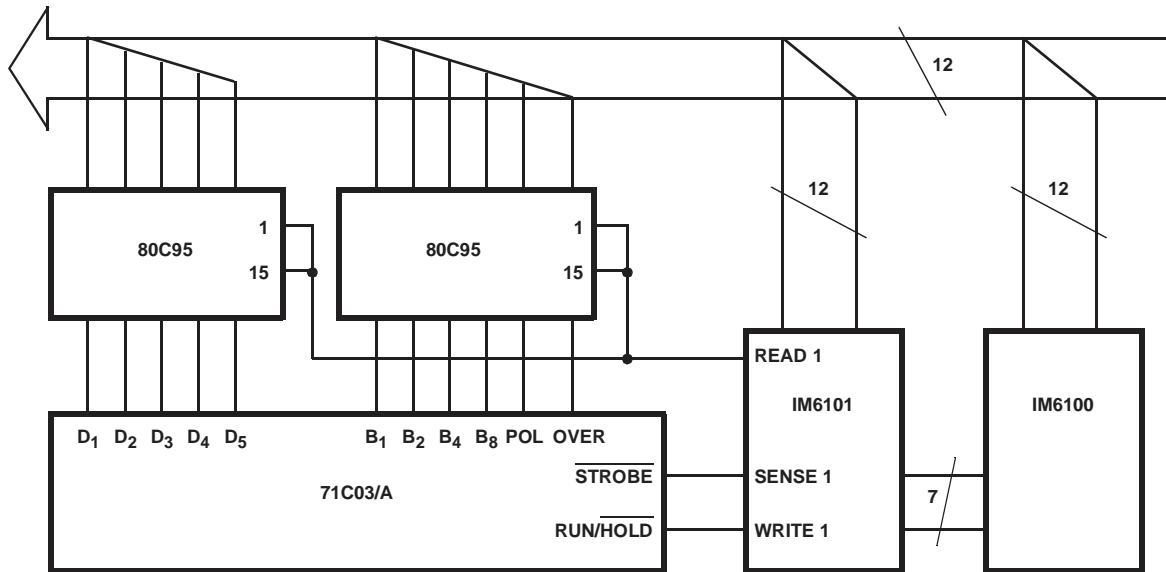

FIGURE 17. IM6100 TO ICL71C03A/71C03A INTERFACE
Circuits to interface the 71C03(A) directly with three popular microprocessors are shown in Figures 17, 18 and 19. The main differences in the circuits are that the IM6100 with its 12-bit word capability can accept polarity, over-range, under-range, 4 bits of BCD and 5 digits simultaneously where the 8080/8048 and the MC6800 groups with 8-bit words need to have polarity, over-range and under-range multiplexed onto the Digit 5 word - as in the UART circuits. In each case the microprocessor can instruct the A/D when to begin a measurement and when to hold this measurement.